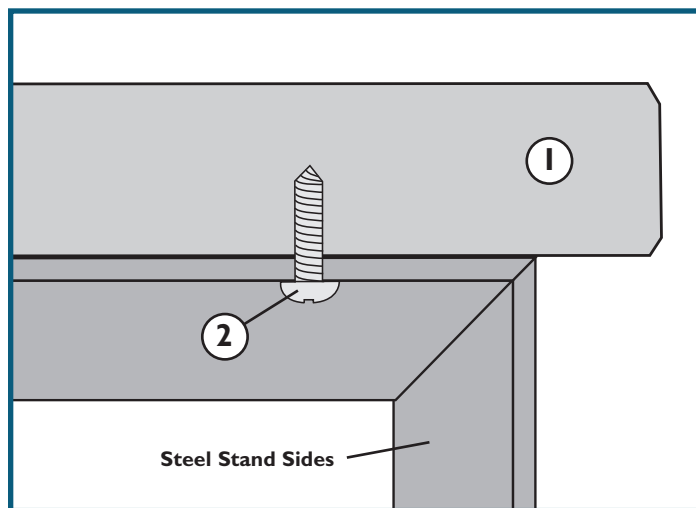

Fig. 2
1. Set the HPL Tabletop (1) on the assembled Steel Router Table Leg Set (48426, sold separately), aligning the predrilled holes in the underside of the top with the mounting holes in the steel stretchers.
2. Use #6 x 3/4" Wood Screws (2) in all 12 holes to attach top and stand. **Fig. 2.**
2. Insert a small metal washer between each stretcher and the tabletop. **Fig. 2.**